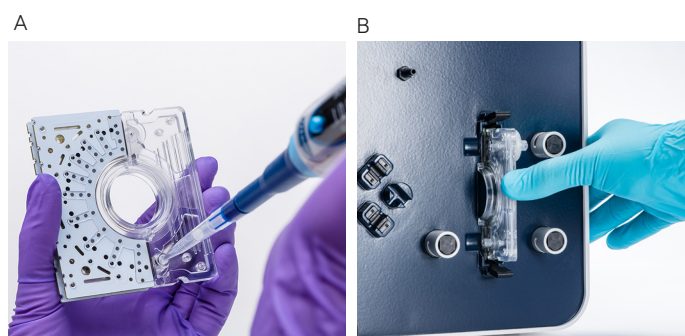

Figure 2.35: A volume of 1 mL is required to completely fill the cuvette. Using a higher or lower volume may lead to errors.
1. Fill the 1 mL Nucleocuvette® Cartridge with 1 mL sample. For filling hold cartridge in a slight angle as shown in (figure 2.35 A). The sterile filter on the rear side should be at the top, the injection port should be at the bottom (upon pipetting cartridge will be filled from bottom to top). Insert the pipette tip approximately in a 90° angle.
2. Insert the filled cartridge into the slot until it snaps in (Figure 2.35, B). Make sure that upper and lower snap mechanism audibly engages to allow for proper contacting.
- Aspirate the transfected sample via the port (see figure 2.35, A) and transfer cells into culture. Optionally you may wash the cartridge with medium to aspirate residual liquid.